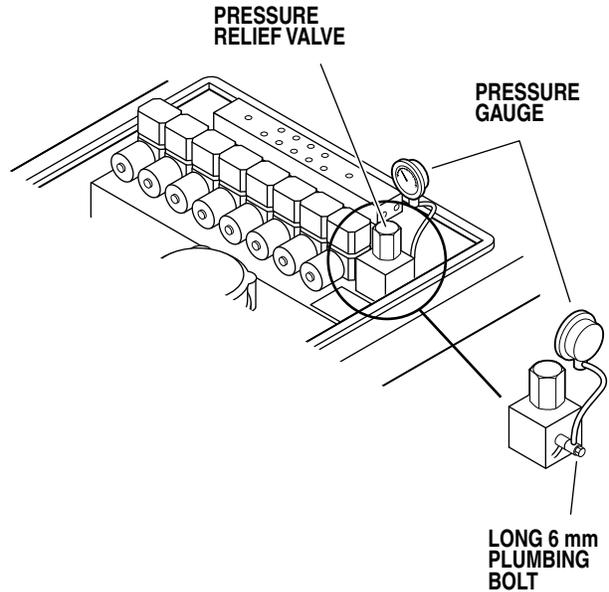

Figure 1-21.
1. Remove the blind cap and attach a hydraulic pressure gauge to the main oil galley using a 6mm plumbing bolt. See figure 1-21.
1. Attach the pressure gauge onto the main oil galley as shown in figure 1-21.